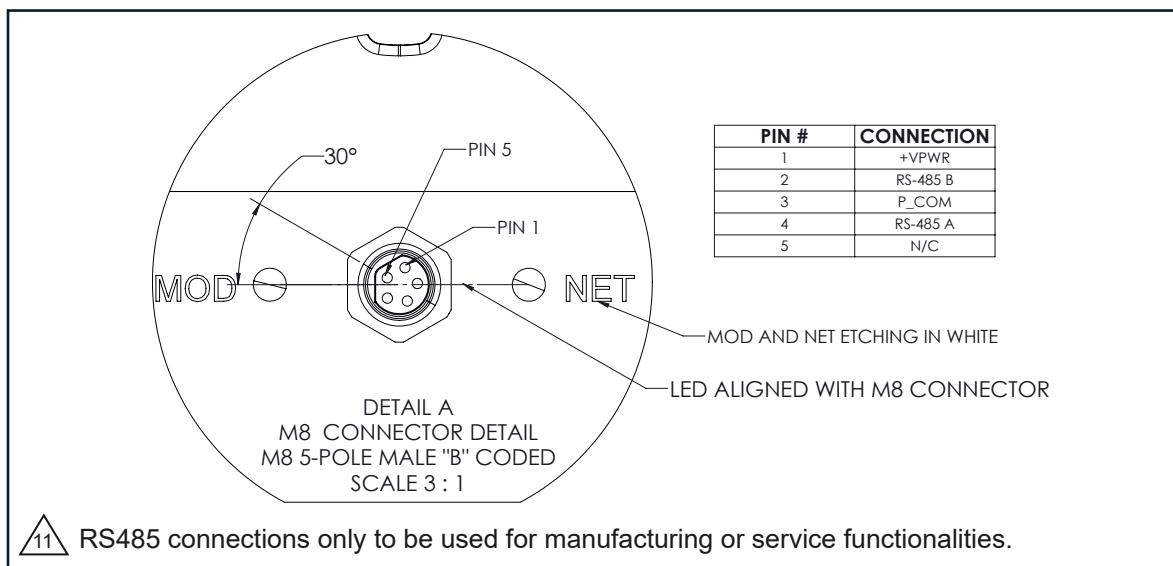

Figure 1-3 Electrical Connections, Power
- 5 pin M8 threaded male connector for power (Figure 1-3).